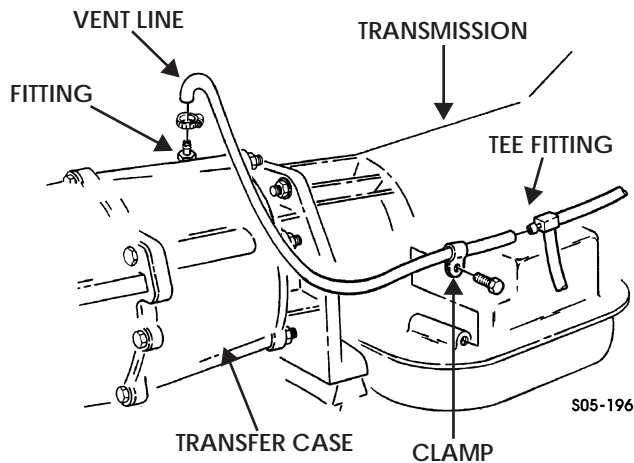

Figure 5-117: Transfer Case Vent Line
1. Loosen clamp and remove vent line from fitting on rear of transfer case (Figure 5-117).
1. If installing a new vent line, position clamp on vent line (Figure 5-117).